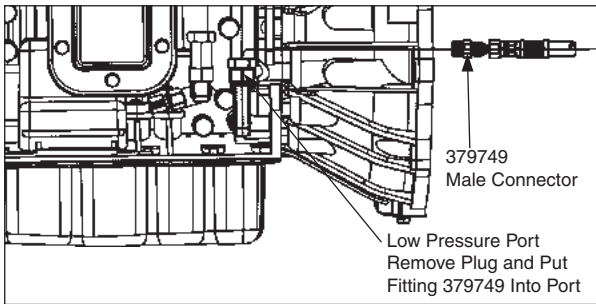

Fig. 4
2. Next remove the low pressure port plug located on the right side (passenger side of transmission) and install part number 379479 male connector fitting into port. (**Fig. 4**)